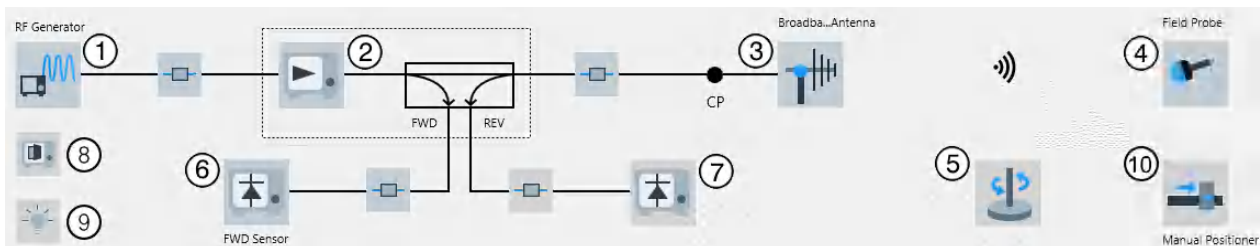

Figure 4-154: EMS hardware setup diagram (radiated) for an Anechoic Chamber in Calibration View
- The "Calibration View" (see Figure 4-154)